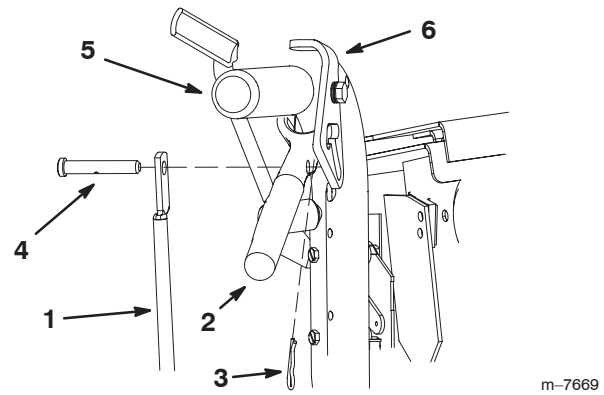

Figure 7
3. Place the clevis pin into the upper part of the control rods, drive lever and neutral/parking brake locks (Fig. 7).
4. Install the hairpin cotter pins between the drive levers and neutral/parking brake locks and into the clevis pins (Fig. 7).